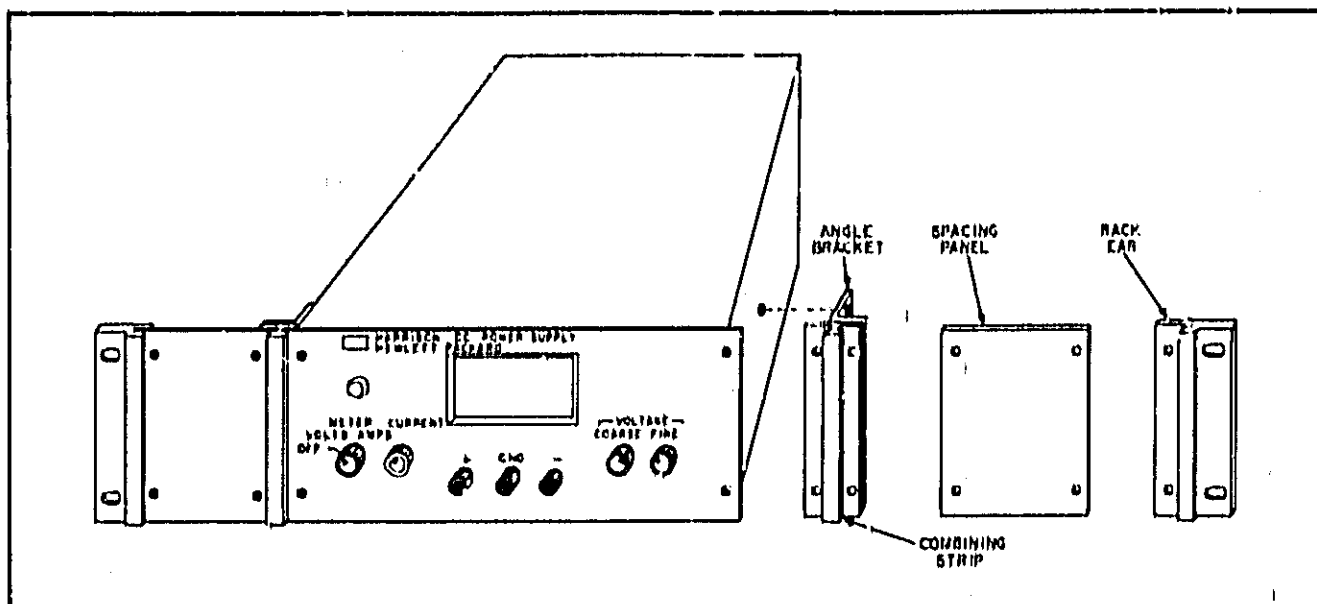

Figure 2-2. Rack Mounting, One Unit
- a. Bolt rack mounting ears, combining straps, and angle brackets to each side of center spacing panels. Angle brackets are placed behind combining straps as shown in Figure 2-2.